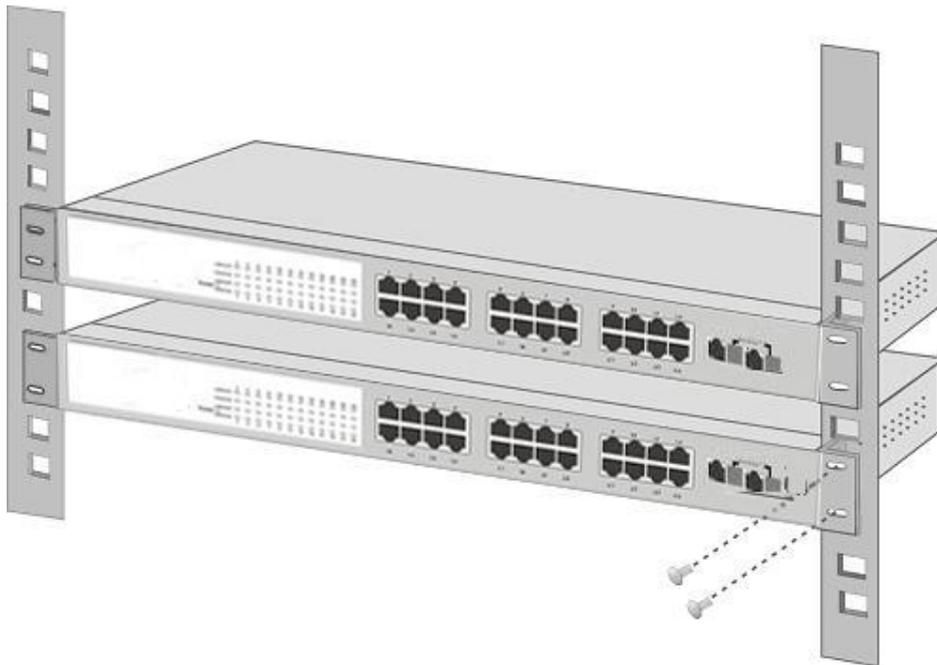

Figure 2-6 Mounting the Switch in a Rack
Step5: After the brackets are attached to the Managed Switch, use suitable screws to securely attach the brackets to the rack, as shown in Figure 2-6.